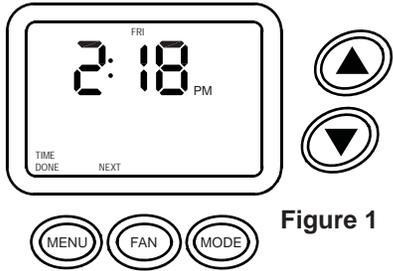

Figure 1
1. **PRESS** the MENU button until TIME DONE appears in the lower left corner. Display will appear as shown (Figure 1).